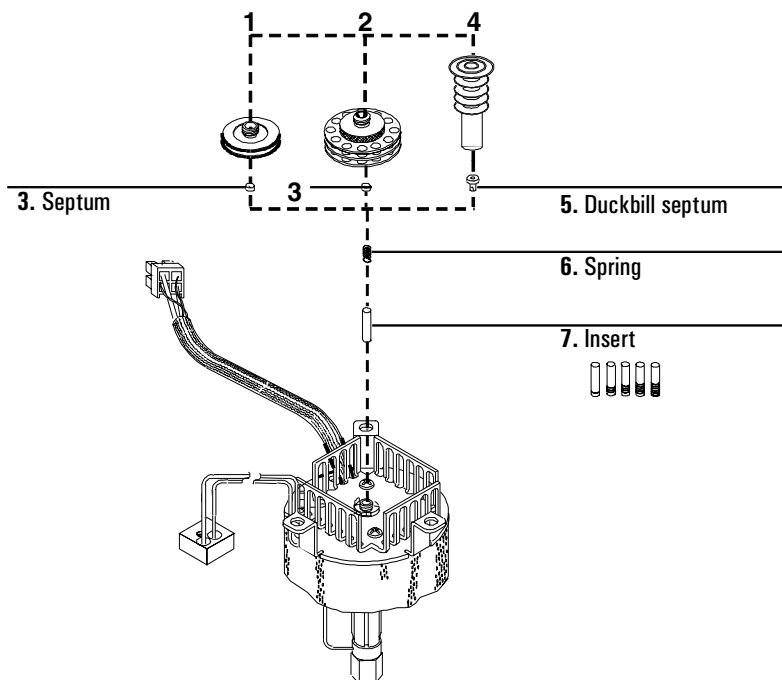

Figure 53 Hardware for the cool on-column inlet
2. Locate the septum nut or cooling tower assembly at the top of the inlet and remove (see Figure 53). If you are using a cooling tower, grasp the three rings and unscrew. If you are using a septum nut, grasp the knurling and unscrew.